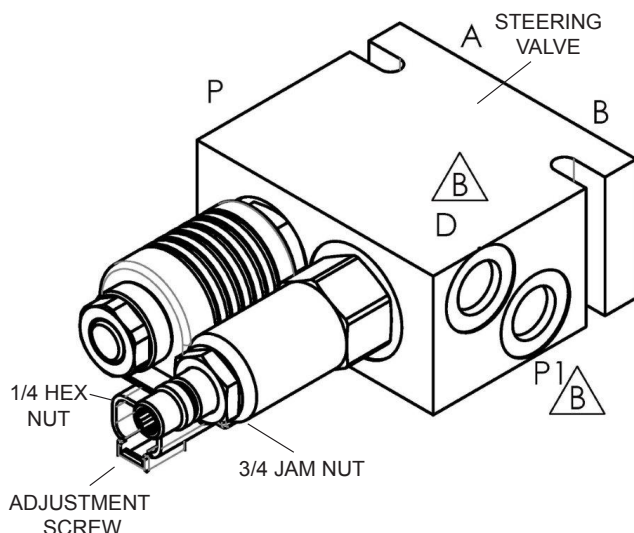

Figure 31. Steering Pressure Adjustment
5. Loosen 3/4" jam nut on steering valve (Figure 31).